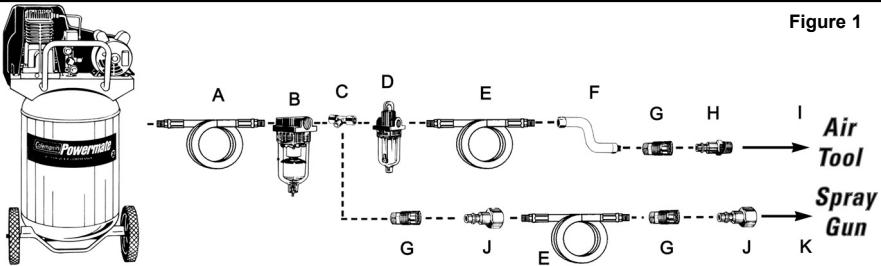

Figure 1
6. Connect the tool to the air hose quick coupler. **NOTE: It is recommended that a whip hose with a swivel (P012-0079SP - not included) be used to prevent twisting, kinking and excessive wear to the air hose (ref. item "F" in figure 1 for recommended connections).**